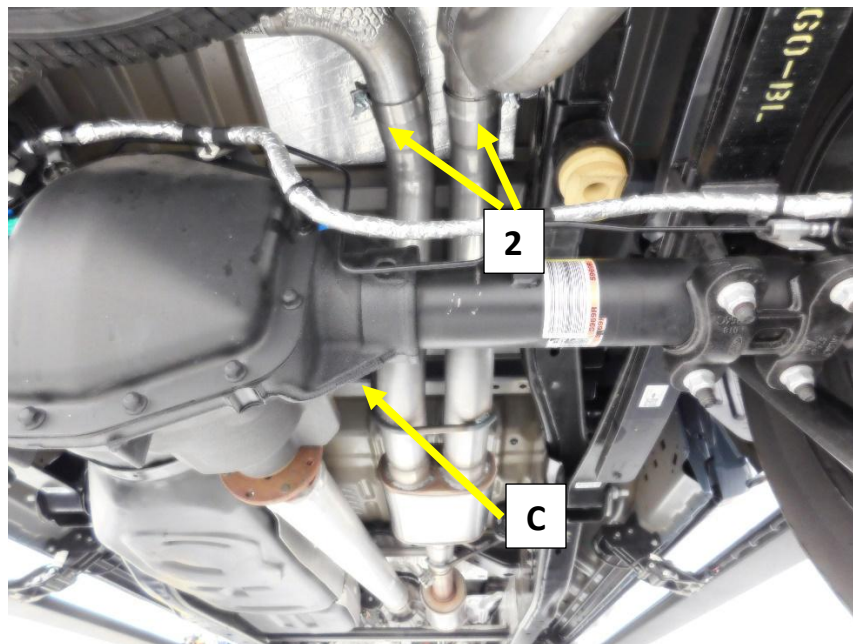

Figure .7
3. Re-install the muffler hanger assembly (C) on to the rear muffler hanger rod, install the isolator assembly to the crossmember. * Be sure the tab of the isolator body is in the Slot. **Fig.7**
4. Install a 3.0" band clamp (2) on each of the two muffler outlet pipes with the bolts to the outside and the nuts facing down. **Fig.7**